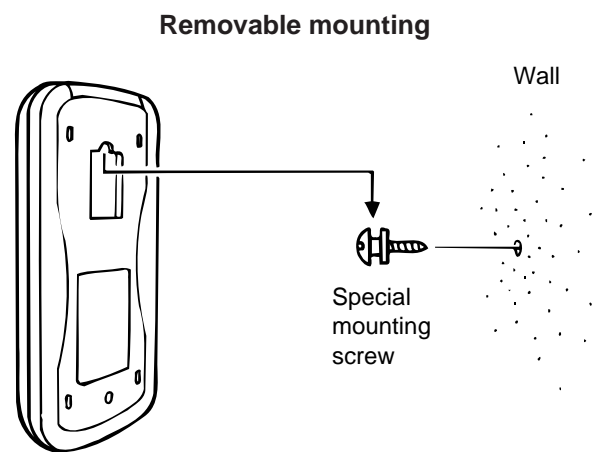

Fig.6a
- 3) After confirming correct operation, use a screwdriver to screw the supplied special mounting screw into the wall. (Fig.6a)